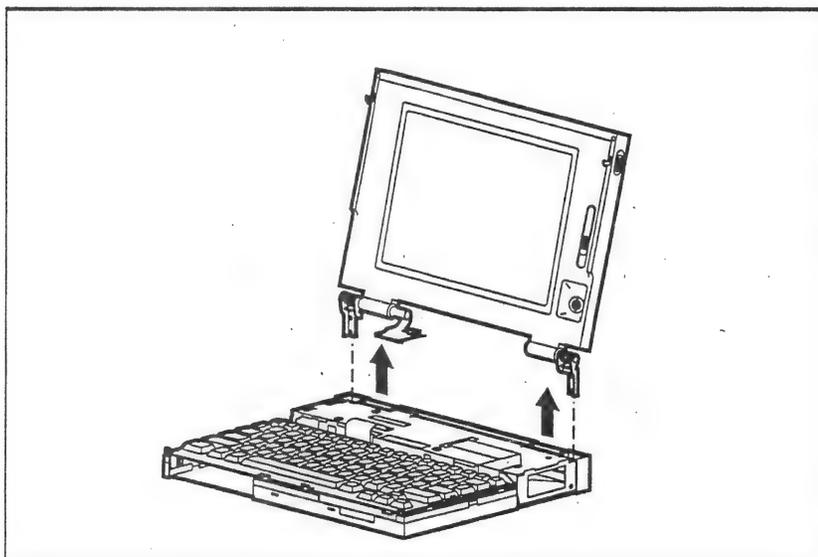

Figure 2-12. Lifting the Display Panel
5. Lift the display out of the computer (Figure 2-12).